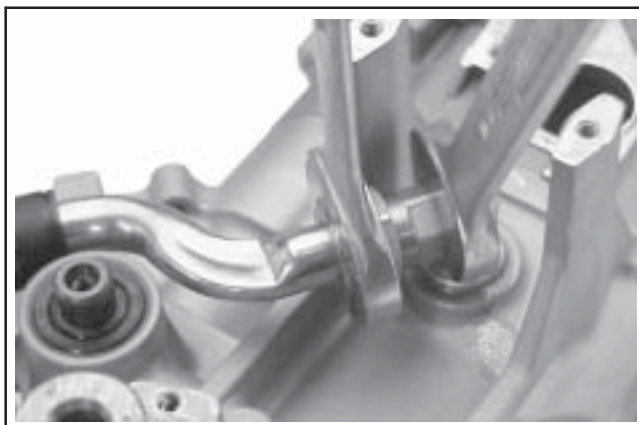

**Figure 9-46. Removing Cam Pulley and Belt.**
2. Carefully lift the pulley off the camshaft and remove the belt from the water pump pulley. See Figure 9-46.